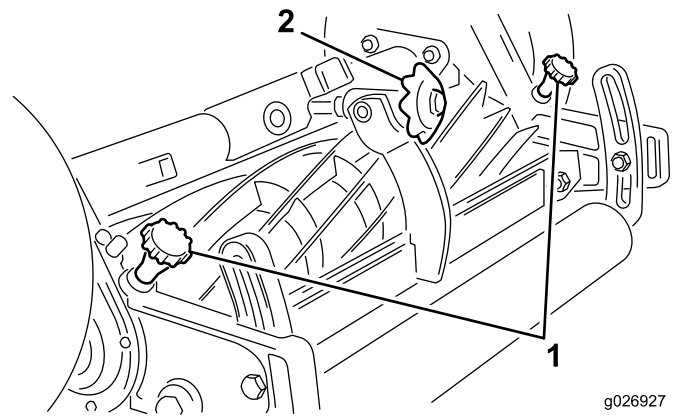

Figure 5
2. Make sure the throwout knobs (Figure 5) are disengaged and the bedknife to reel contact is removed by turning the bedknife adjustment knob counterclockwise.
3. Insert a long strip of newspaper between the reel blade and the bedknife. While rotating the reel backward, turn the bedknife adjusting knob (Figure 5) clockwise, one click at a time, until the paper is pinched lightly, which results in the paper being cut or a slight drag when the paper is pulled.